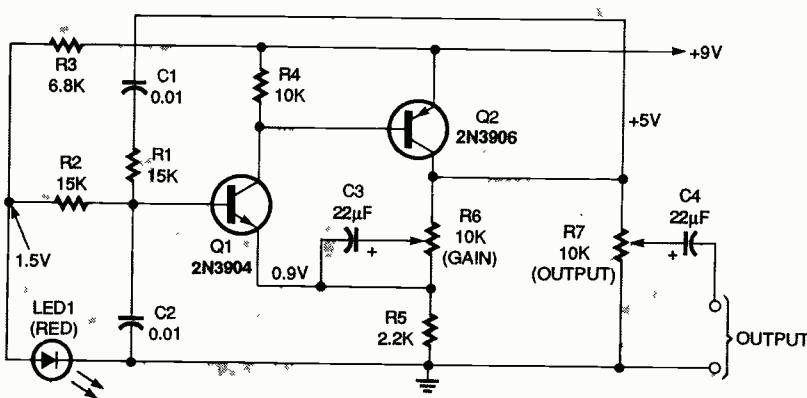

FIG. 4—THIS WIEN-BRIDGE OSCILLATOR generates variable-amplitude, 1-kHz sine-waves.
**FIG. 4—THE INPUT CAN BE PROTECTED** from reverse polarity by a series diode. The diode should be rated for twice the maximum expected input voltage and current for the best reliability.
Connect a surge arrester across the converter inputs, as shown in Fig. 3, if the input power stability is questionable. The input polarity is critical, and should be connected cautiously. The input can be protected from reverse polarity by a series diode, as shown in Fig. 4. The diode should be rated for twice the maximum expected input voltage and current for the highest reliability.